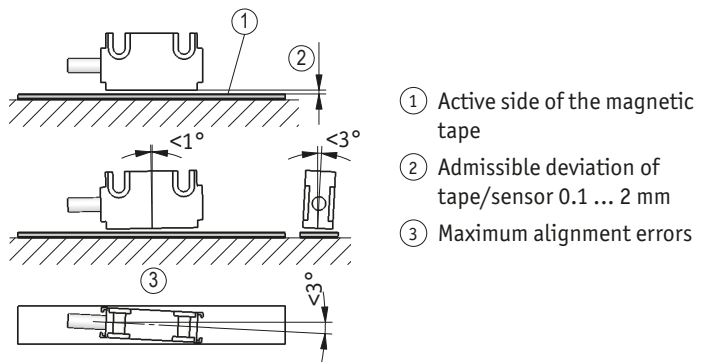
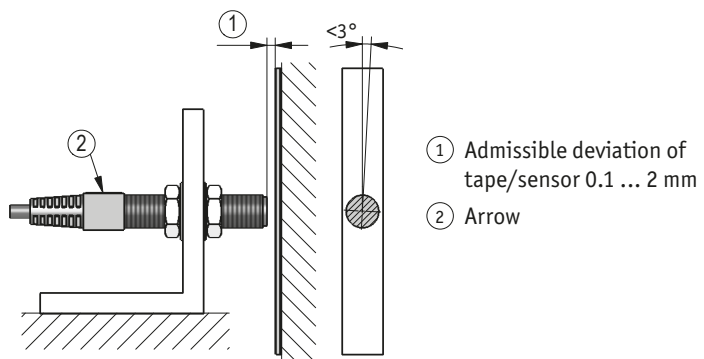

Fig. 6: Mounting sensor / magnetic tape, gap measure, tolerances
Fig. 7: Mounting sensor / magnetic tape, gap measure, tolerances
► Take care that the magnetic sensor is aligned correctly in order to ensure optimum sensing (see Fig. 6, Fig. 7).